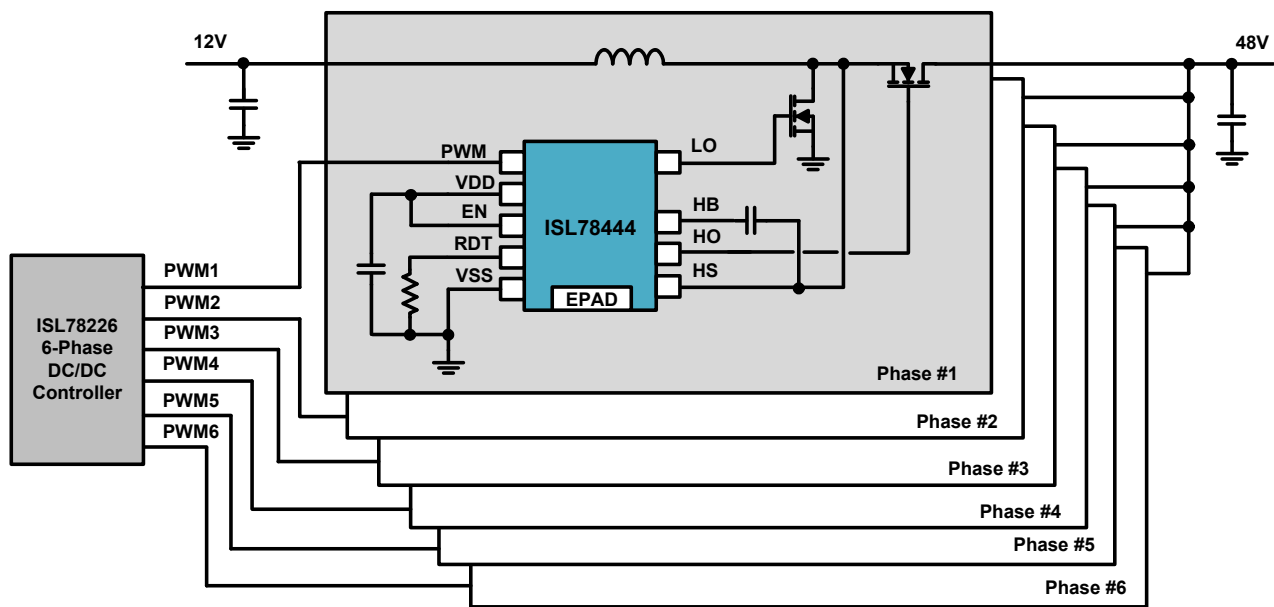

Figure 1. ISL78444 Typical Application Block Diagram
- (1) The programmable dead time of the HO and LO signal is set to 110ns with a 10k Ω resistor from the RDT pin to GND (note the ISL78444 also has an inherent adaptive dead time). To change the dead time, replace the resistor at R₁₀ with the value corresponding to the desired dead time. See Figure 1.
- (2) Ensure that the enable switch (SW₁) is set to the off position.
- (3) Connect a power supply capable of 48V and 10A to VBAT_48V terminals {J₁₉(+) and J₂₀(-)}. Turn on supply to 48V.
- (4) Connect 8V to 18V supply to VDD terminals on board {J₂(+) and J₃(-)}. Turn on supply to 12V.
- (5) Connect a 0V to 5V (PWM pin capable of voltage up to VDD) <500kHz square wave signal to PWM BNC connector J₁₃.
- (6) Toggle enable switch (SW₁) to the on position.
- (7) Verify HO and LO outputs are switching. LO switches between GND and VDD (12V for this example) phase inverted from PWM. HO switches between GND and V_{HB} + V_{BRIDGE} (48V in this example) in phase with PWM.